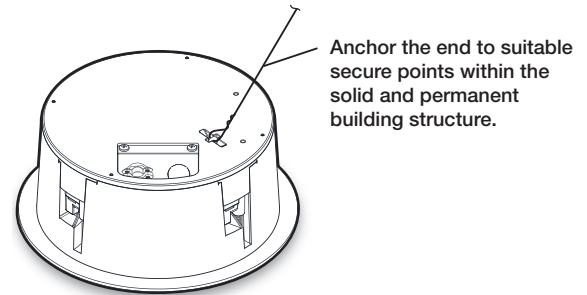

Figure 10. Attach Secondary support Line
- a. Connect a secondary support line to the support loop on the back of the speaker enclosure (see figure 10).